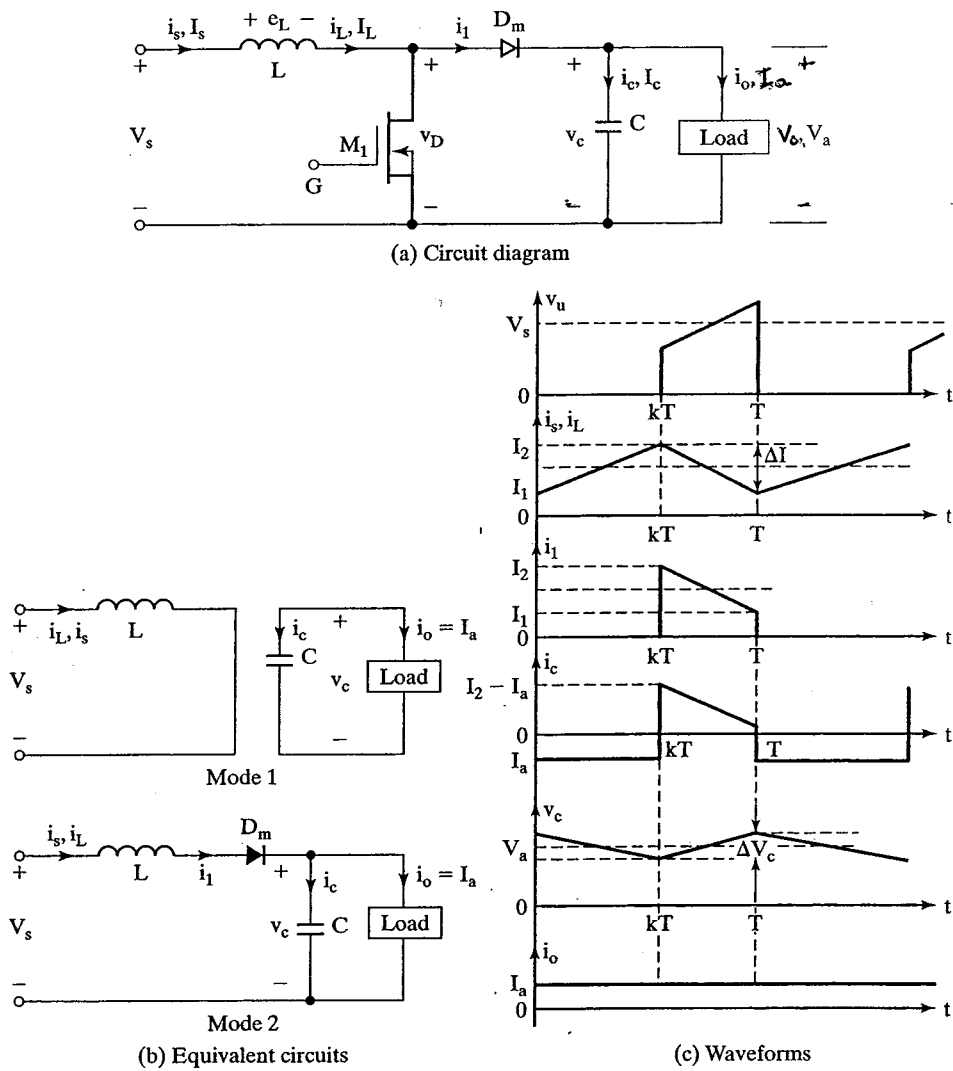

Figure 1 : Boost Regulator with a power Mosfet
3. Figure 1 shows a boost regulator with the following parameters:
- (a) Using the boost regulator circuit diagram as shown in Figure 1, prove that the output voltage V_a can be related to input voltage V_s by